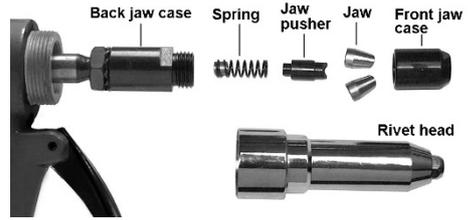

Figure 3
2. Loosen rivet head (Figure 3) with an adjustable wrench (not provided), and remove rivet head from nozzle.